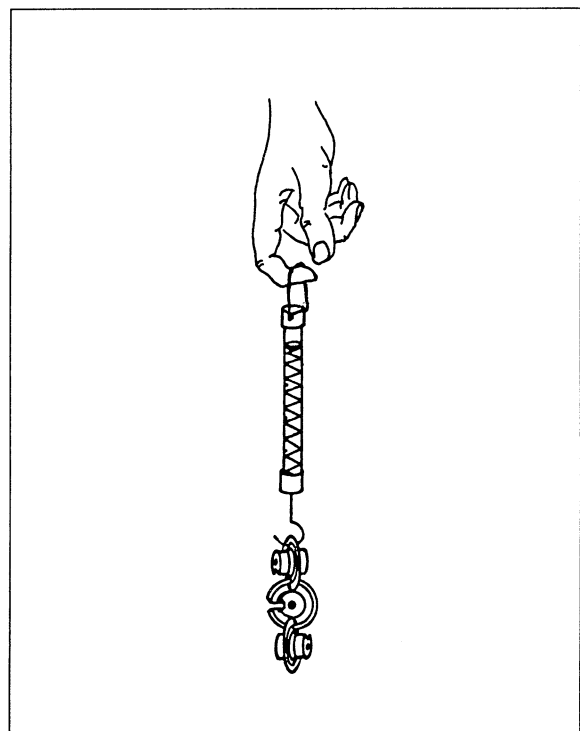

Fig. 2 ► 3.
3. Suspend 1 to 3 weights from the dynamometer, one after the other ► Fig. 2.